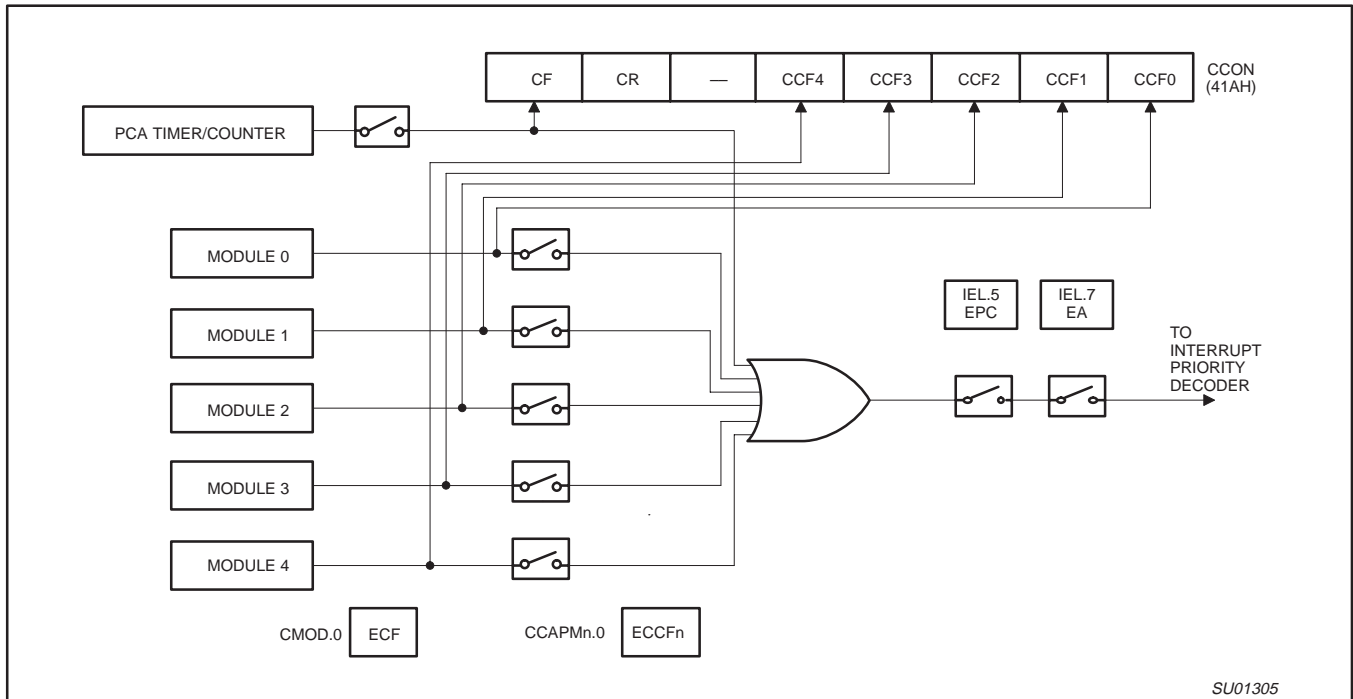
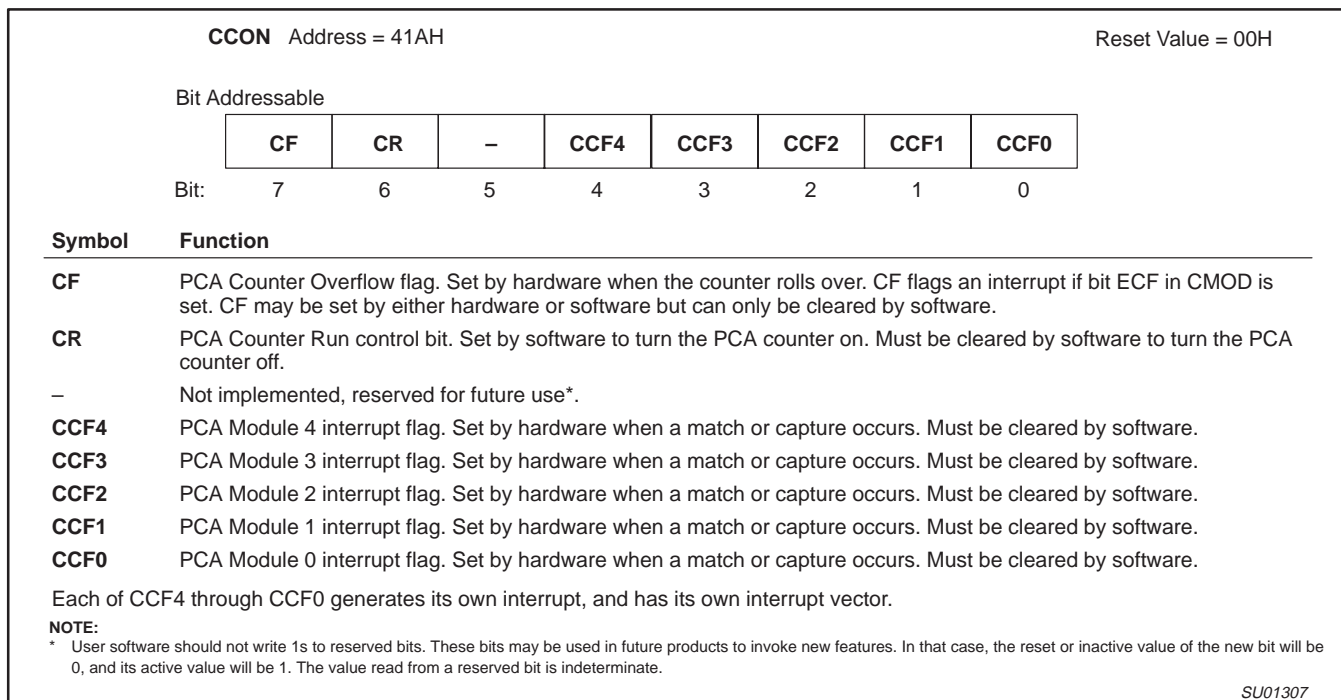

Figure 9. PCA Interrupt System
Figure 11. CCON: PCA Counter Control Register
The CCON SFR contains the run control bit for the PCA and the flags for the PCA timer (CF) and each module (refer to Figure 11). To run the PCA the CR bit (CCON.6) must be set by software. The PCA is shut off by clearing this bit. The CF bit (CCON.7) is set when the PCA counter overflows and an interrupt will be generated if the ECF bit in the CMOD register is set. The CF bit can only be cleared by software. Bits 0 through 4 of the CCON register are the flags for the modules (bit 0 for module 0, bit 1 for module 1, etc.) and are set by hardware when either a match or a capture occurs. These flags also can only be cleared by software. The PCA interrupt system shown in Figure 9.